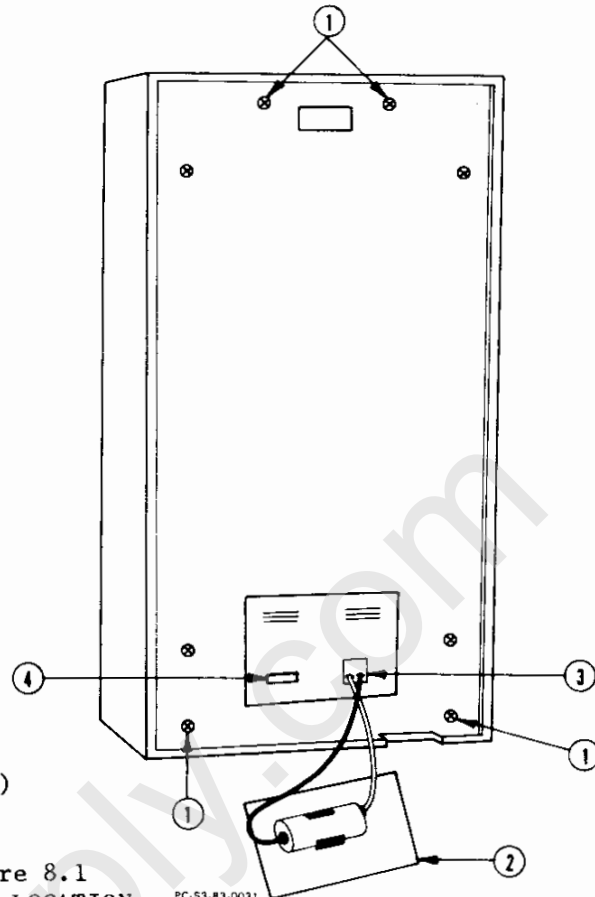

Figure 8.1
REPLACE BATTERY (REFER TO FIGURE 8.1)
1. Turn off AC power and remove the CPU/Programmer from the base unit. Remove 4 screws from rear cover plate as shown in Figure 8.1.